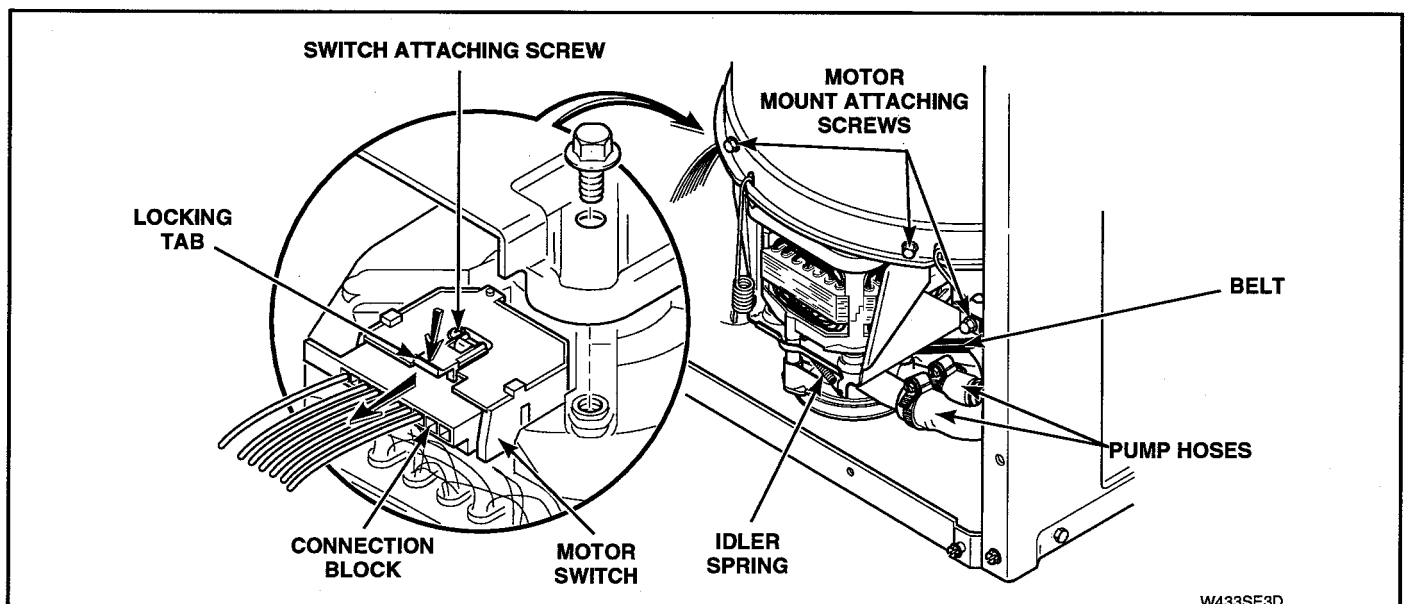

Figure 5-21
- g. Disconnect wire harness from motor switch by pressing down on locking tab on top of connection block and at the same time pull connection block away from motor switch. See Figure 5-21.
- h. Remove four screws holding motor and mounting bracket to lower outer tub flange and to weldment assembly. See Figure 5-21. Then lift complete assembly out of washer.
- d. Loosen hose clamps and remove hoses from pump assembly. See Figure 5-21.
- e. Unhook idler spring from idler lever. See Figure 5-21.
- f. Reach in and around right side of motor and run belt off right side of large drive pulley. See Figure 5-21.
- h. Remove four screws holding motor mounting bracket to lower flange of outer tub and to weldment assembly. See Figure 5-21. Then remove complete assembly out of washer.
- h. Remove four screws holding motor and mounting bracket to lower flange of outer tub and to weldment assembly. See Figure 5-21. Then remove complete assembly out of washer.
- Remove two screws holding motor shield to motor. See Figure 5-21.
- Disconnect wire harness from motor switch by pressing down on locking tab on top of connection block and at the same time pull connection block away from motor switch. See Figure 5-21.
- Remove screw holding motor switch to motor. See Figure 5-21. Then remove switch.